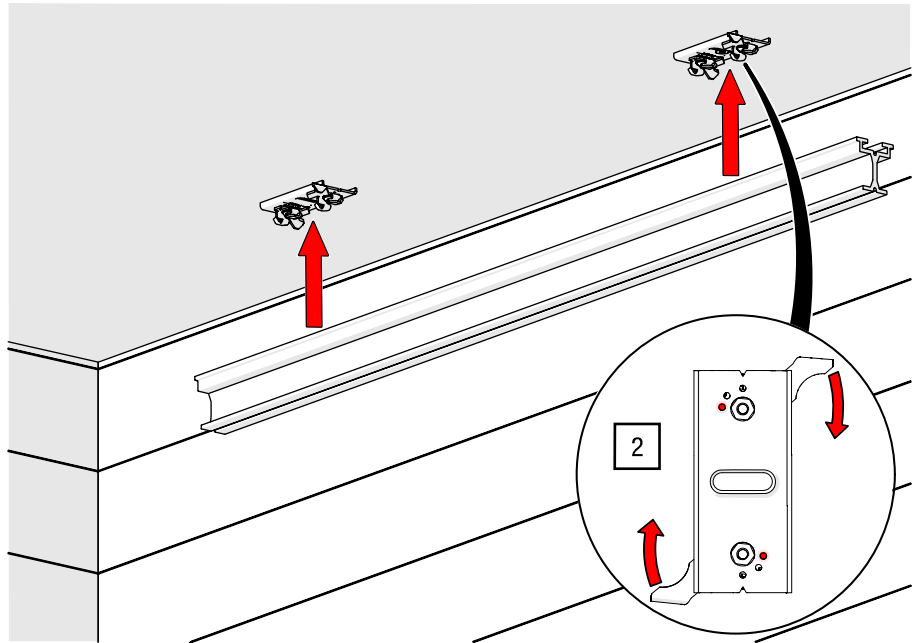

Fig. 54: Ceiling mounting – Fixing the track to the G-TWIST II
- G-TWIST II Locking position 1 → 2 2. Lift the track and lock the G-TWIST II into the first locking point (see Fig. 54).